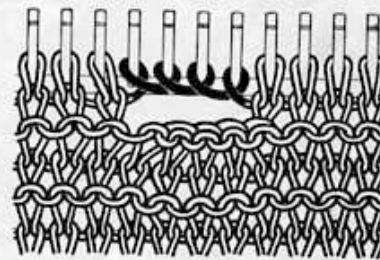

Fig. 23/1
U. **Button Holes** are made by crocheting off with the hook one by one the number of stitches wanted from the comb-pins. (Fig. 23.) The last stitch is hung over the comb-pin as illustrated. The comb should now be turned right round and then a row knitted over. The large loop now apparent is formed into stitches on the comb-pins. (Fig. 23/1.) Then the usual method of knitting should be followed.